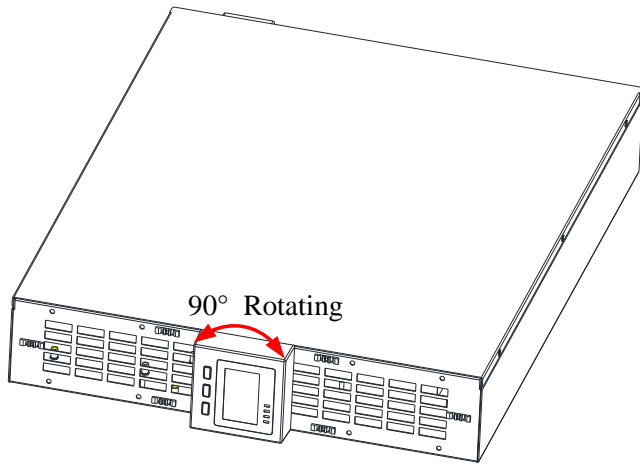

Fig.2-4 Rotating the operation and display panel
2. Pull the operation and display panel gently, rotate it 90 degrees clockwise (1/1) or anticlockwise (3/1) and snap it back into position, as shown in Fig.2-4